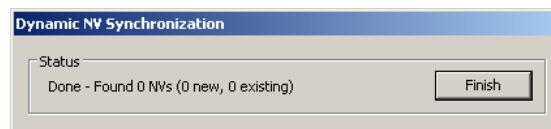

Figure 114: Synchronizing dynamic NVs from the device.
2. Right-click and select **Sync Dynamic NVs** in the context menu. The LINX-10X Configurator then loads any new dynamic NVs, which have been created and are not yet part of the port interface definition. The process completes when the dialog shown in Figure 114 appears.